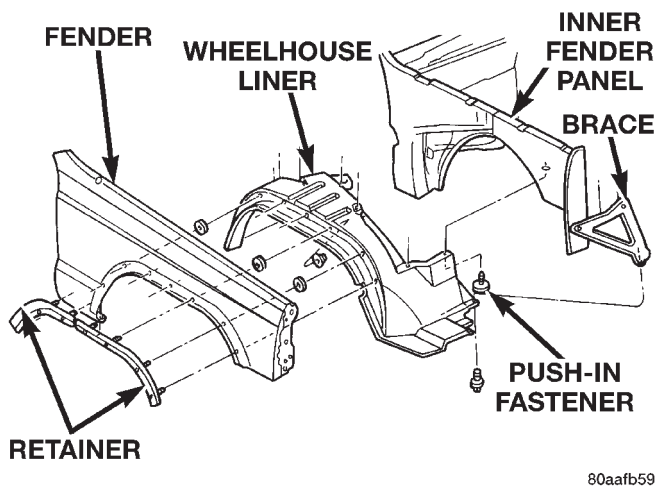

Fig. 18 Front Wheelhouse Liner
- (1) Hoist vehicle.
- (2) Remove tire.
- (3) Remove the push-in fasteners attaching the wheelhouse liner to the inner fender.
- (4) Separate the wheelhouse liner from the fender (Fig. 18).